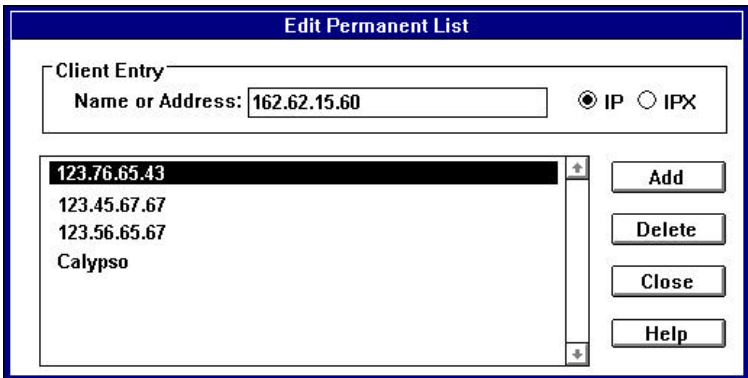

Figure 2-9: Edit Permanent List Dialog Box
3. Select **Edit Permanent List**. Enter the server's password at the prompt. The Edit Permanent List dialog box appears, as shown in Figure 2-9.